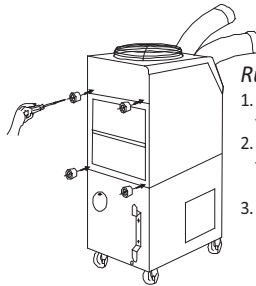

Figure 10 – Rubber Stopper attachment
2. Place the rubber stoppers on the rear of the unit as shown in Figure 10